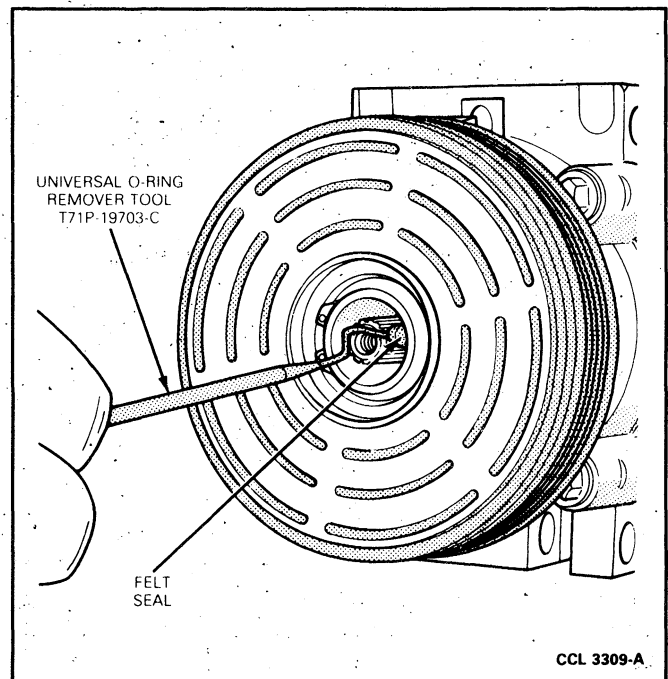

FIG. 9 Removing Shaft Felt Seat
2. Remove shaft seal felt from hose of compressor with O-ring Tool T71P-19703-C or equivalent (Fig. 9).